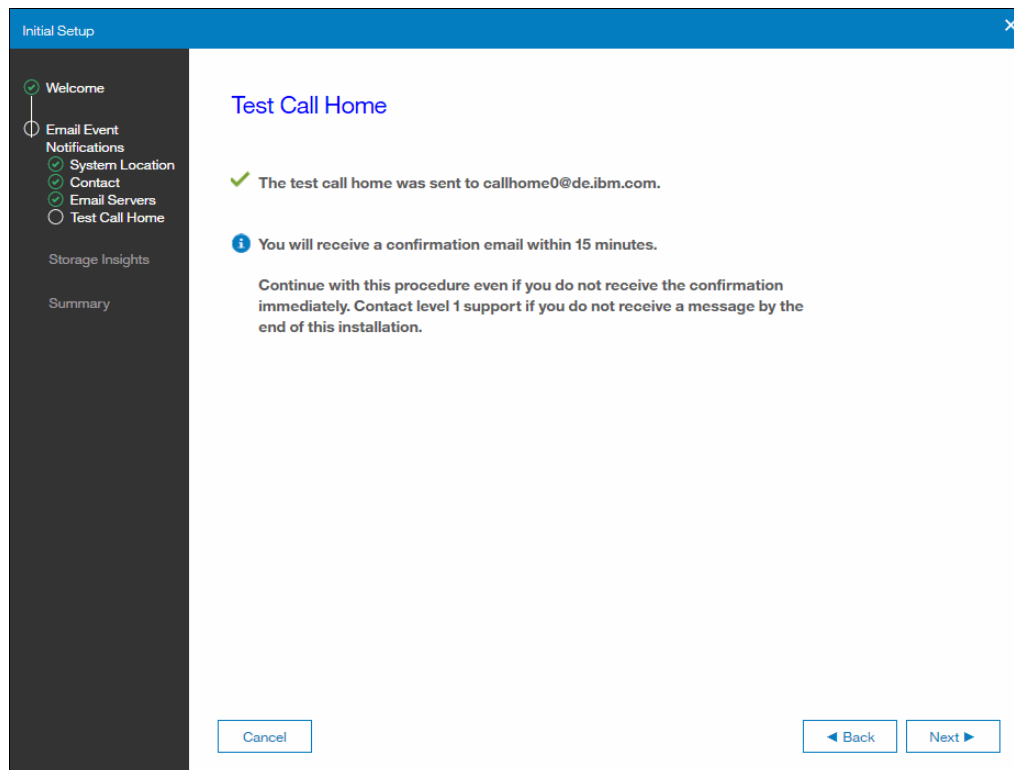

Figure 6-69 Test call home screen
22. The Test Call Home screen is displayed (Figure 6-69).